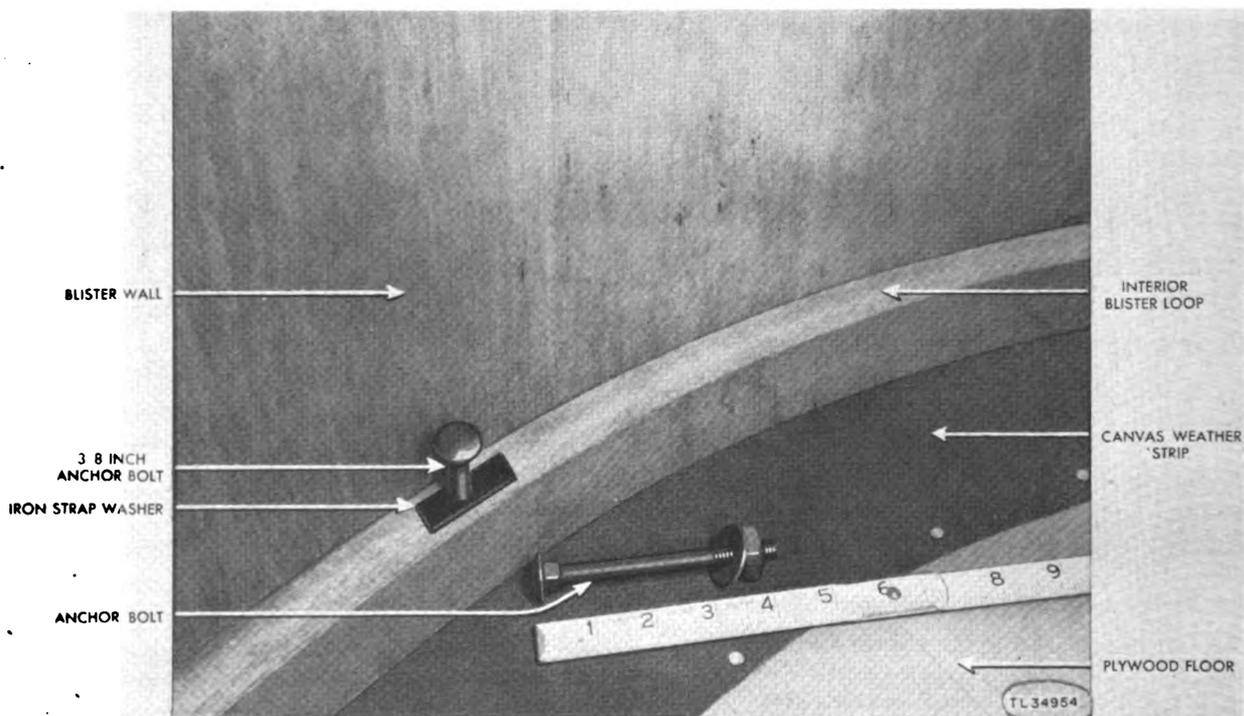

Figure 15. Fastening blister to platform.
(2) Set the blister in position with the door facing landward.
(3) With a long-shank extension bit, drill a minimum of six  $\frac{3}{8}$ -inch holes through the mounting ring fastened along the inner wall at the bottom of the blister (fig. 15).
(4) With the use of wedges, raise the blister about one inch above the antenna platform and spread a heavy layer of caulking compound over the surface of the canvas on which the blister will rest.
(5) Remove the wedges and force the house in the caulking compound down to the canvas on the plywood floor.
(6) Fasten the blister to the platform (fig. 15) by using bolts, washers, and nuts.
(7) Smooth the remaining caulking compound evenly inside and outside the blister wall.
(8) Check for operation and fitting of the weathertight door which gives access to the blister. Whenever the door is closed, it should be protected with the canvas door cover, properly fastened.